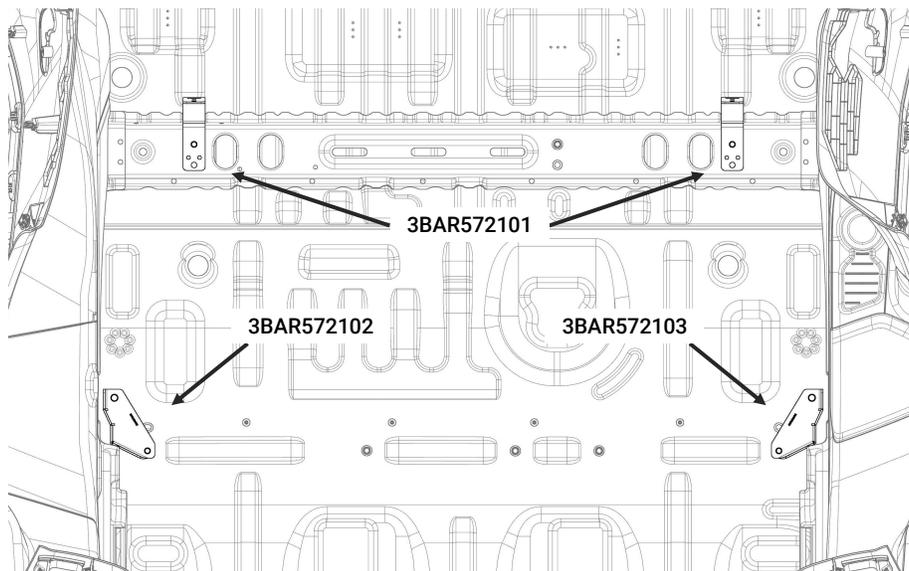

Figure 1
- Locate the points where the barrier will mount. Figure 1 shows the brackets in their locations on the sheet metal floor pan - the floor covering is not shown.